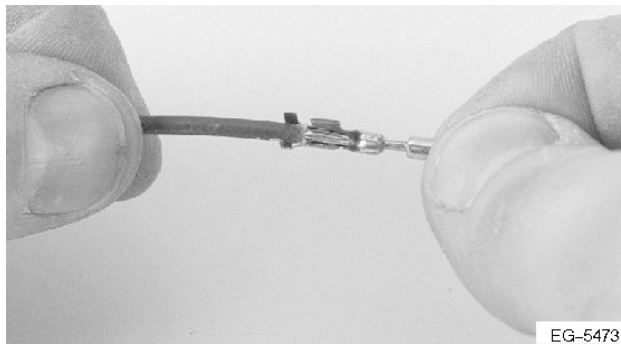

Figure 272 Place Terminal Over Wire
2. Position the wire in the new terminal (See Figure 272, page 441).